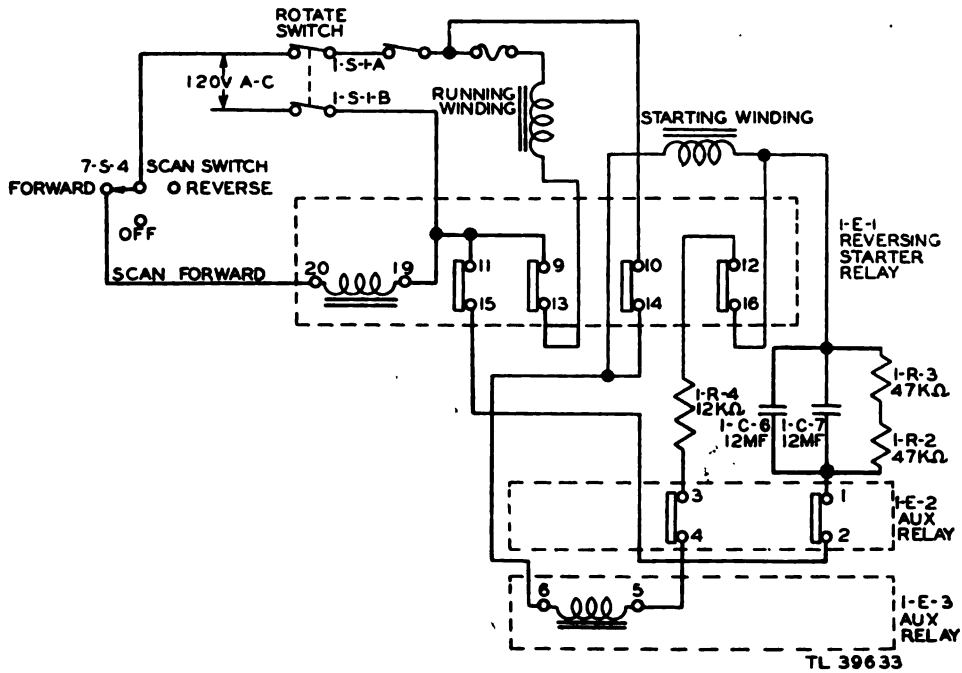

Figure 22. Spinner drive motor control circuit, position of relays, starting forward.
(1) When power is first applied, both running and starting windings are energized (fig. 22) in the proper phase. As soon as the motor gets up